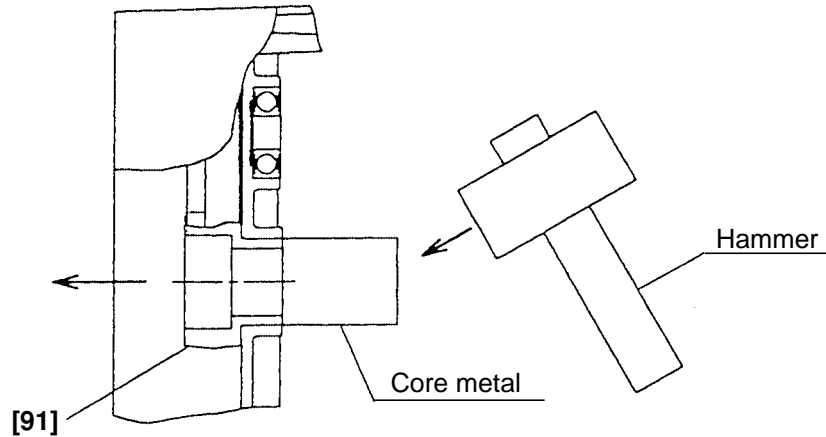

Fig. 17
(7) Removal of bracket (A) and (B) unit (Fig. 17)